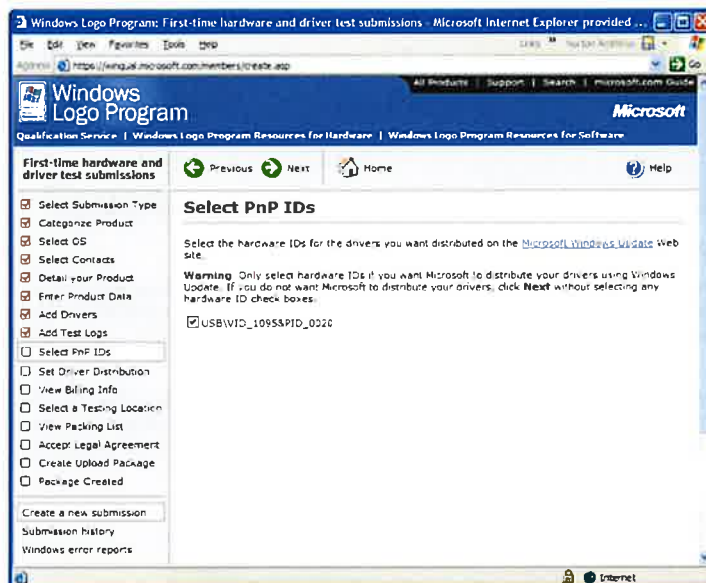

Figure 15-24. Specifying PnP IDs for Windows Update.
- For which hardware (PnP) IDs do you want Microsoft to distribute drivers via Windows Update? There are additional requirements to using Windows Update, by the way, but this step is one not to miss. See Figure 15-24.